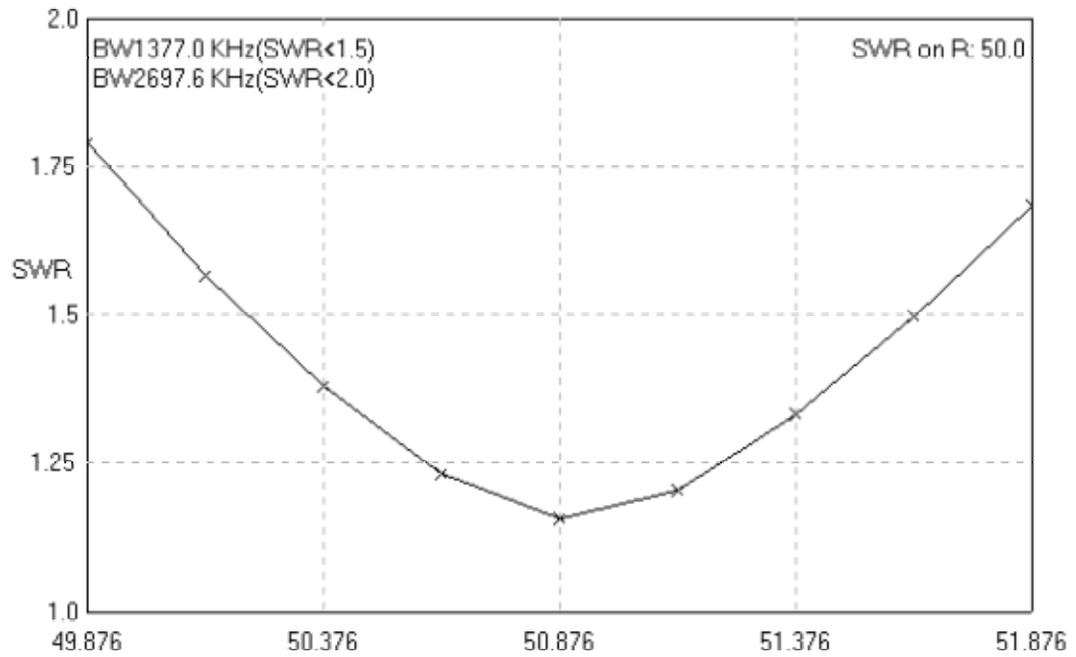
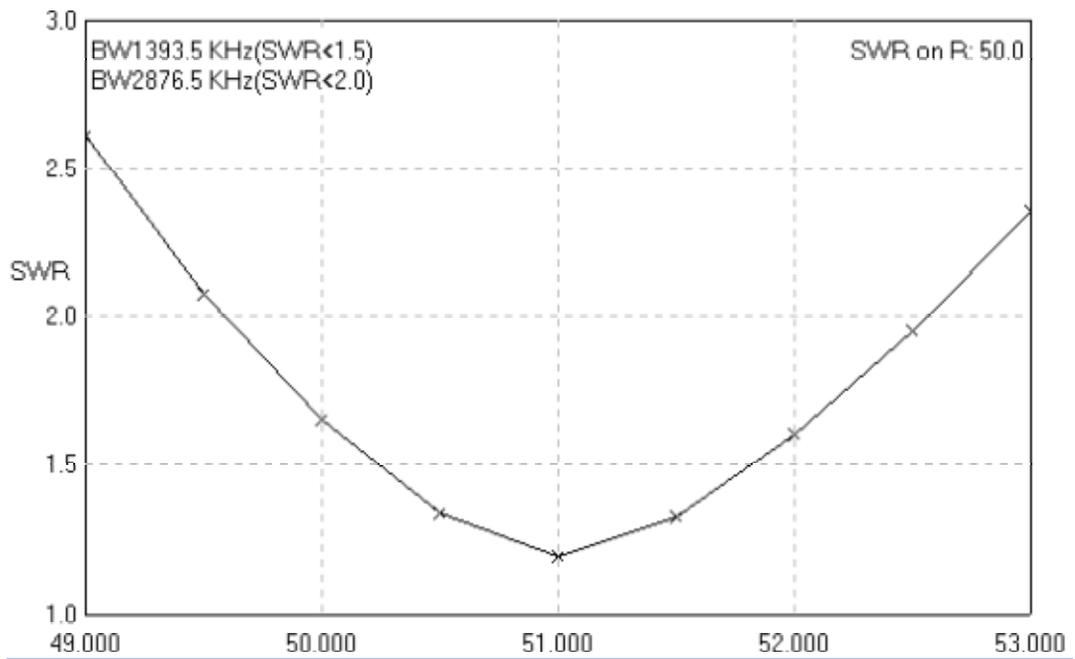

Figure 9 SWR at 50- Ohm coaxial for 'narrow' antenna
Figure 10 SWR at 50- Ohm coaxial for 'wide' antenna
**Figure 9** shows a SWR at 50- Ohm coaxial for 'narrow' antenna shown at **Figure 2**. **Figure 10** shows a SWR at 50- Ohm coaxial for 'wide' antenna shown at **Figure 2**. Theoretical gain for the antennas is near 1,5- 1,7 dBi.